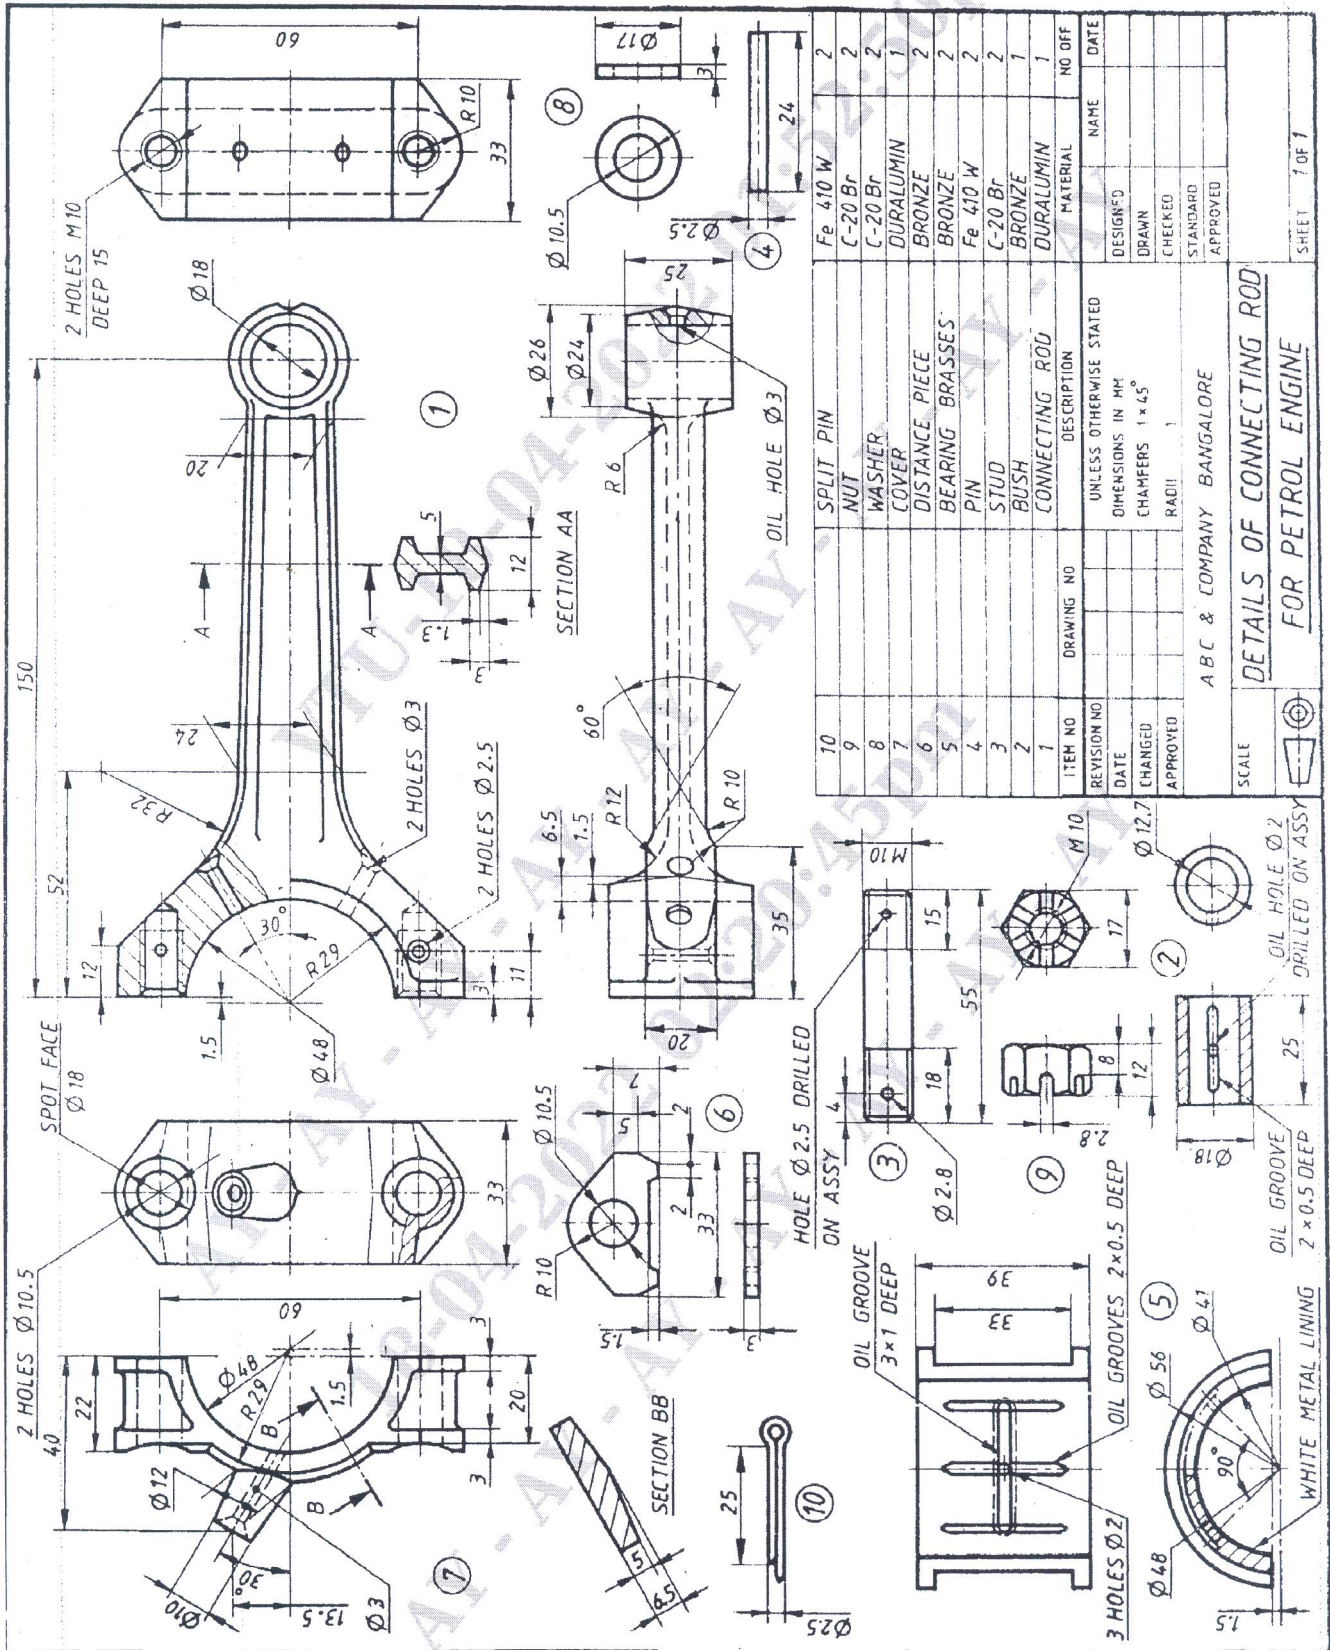

Figure 2: Details of IC Engine Connecting rod
6. Figure 2 shows the part drawing of a "IC Engine Connecting Rod". Assemble parts and show the following views.